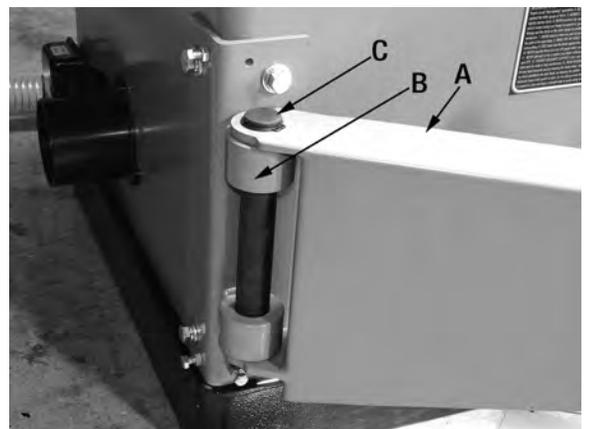

FIGURE 34
2. With the help of another person, position the swing arm (A) Fig.34 over the support bracket (B) and slide the large pivot shaft with retaining ring on top (C) into the opening as shown.